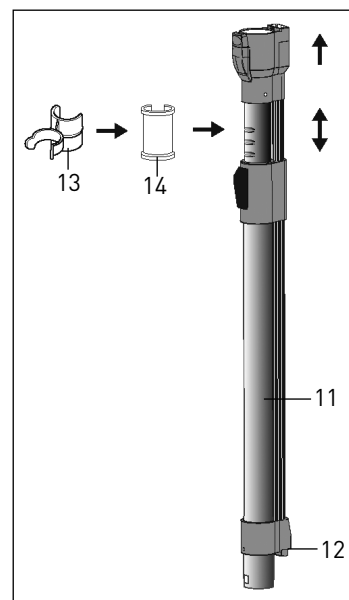

Figure 1
### Attaching the Power Head to the Telescopic Tube of your SEBO Canister Vacuum or the Central Vac Wand - Figure 1
### Attaching the Brush Clip Adapter to the Telescopic Tube - Figures 1 & 2
**Step 1:** Pull the telescopic tube at least 3 to 5 positions above the fully-lowered position (figure 1). Press the adapter (14) over the telescopic tube (11) until it snaps on to the tube. The adapter will lock into the indented lines on the tube.